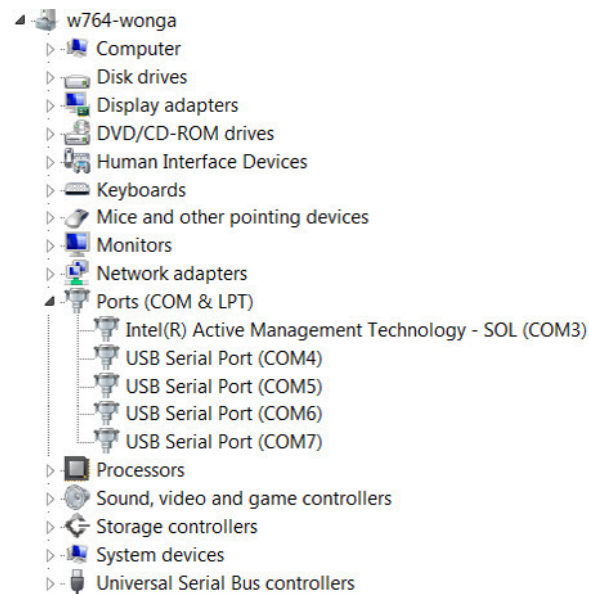

Figure A-4 • Device Manager USB Serial Ports
11. When the installation is complete, click **OK**. The Ports (COM & LPT) section of the Device Manager (Figure A-4) lists four USB Serial Ports (COMn) numbered consecutively where n can be any number. The USB Serial Port numbers on your PC may be different from Figure A-4.